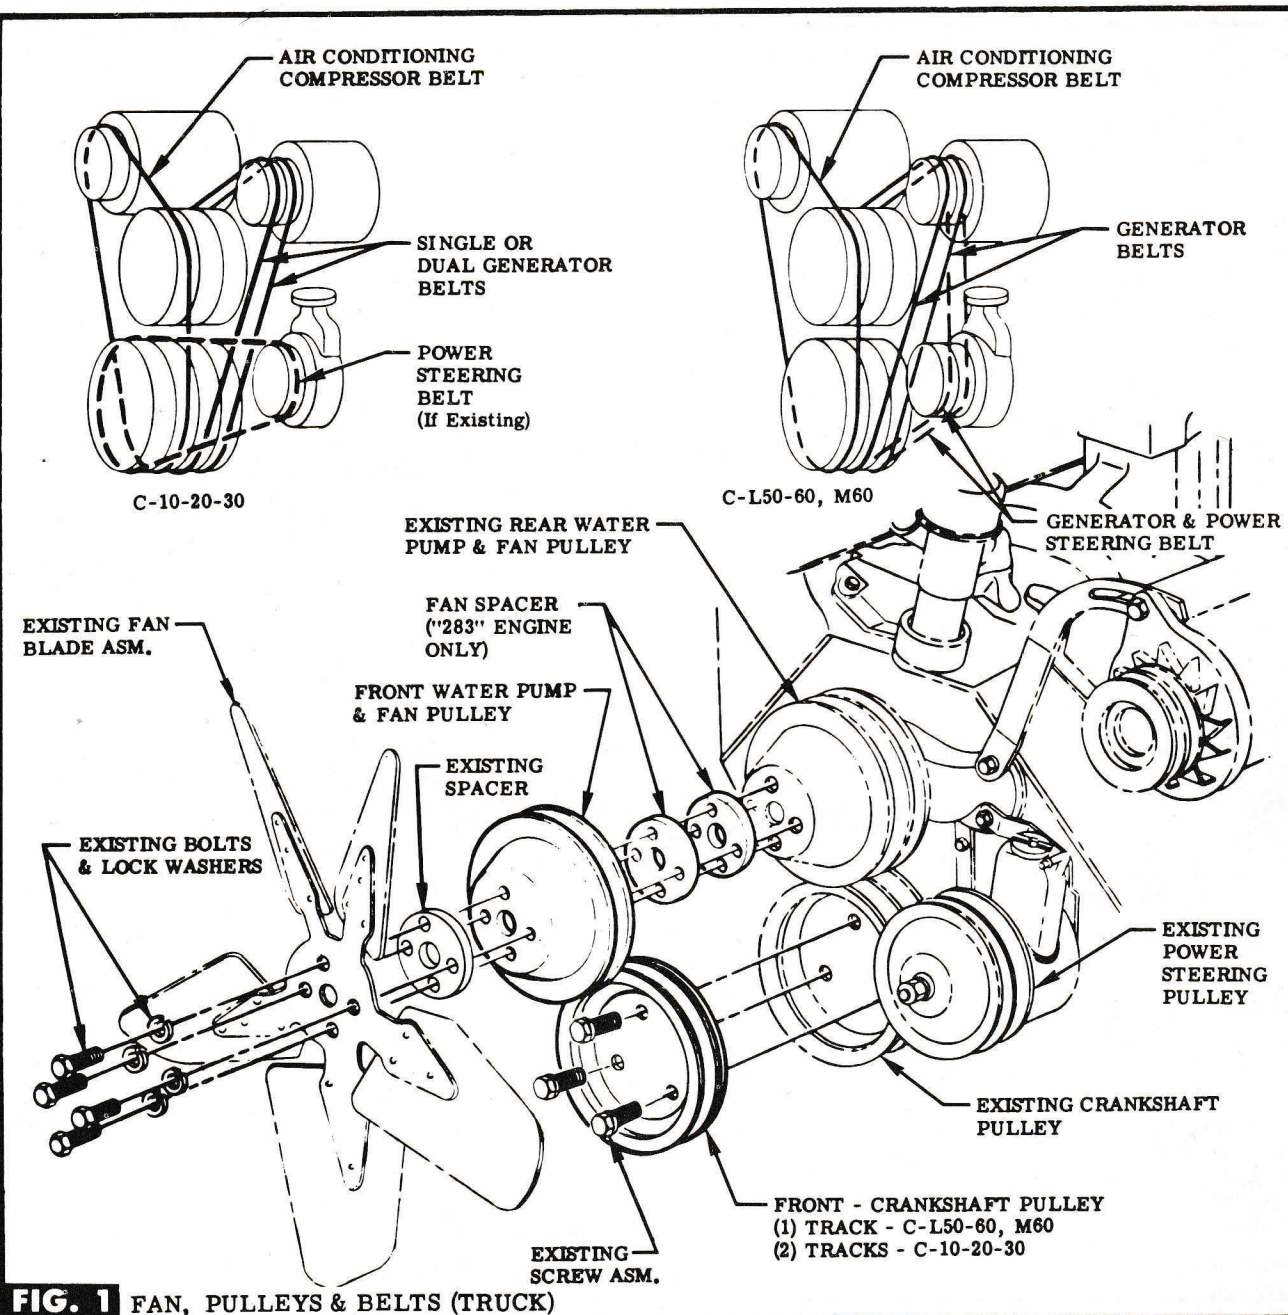

FIG. 1 FAN, PULLEYS & BELTS (TRUCK)
STEP 6 INSTALL PROVIDED GENERATOR BELT ON REAR PULLEYS, COMPRESSOR BELT ON CENTER PULLEYS & POWER STEERING BELT ON FORWARD PULLEYS. SEE SCHEMATIC IN FIG. 1. **NOTE** Adjust compressor on support until belt is tight, then secure nuts at pivot bolt & clamping bolt. SEE COMPRESSOR MOUNTING SHEET.
STEP 4 INSTALL PROVIDED CRANKSHAFT PULLEY TO EXISTING CRANKSHAFT PULLEYS WITH RETAINED SCREWS. SEE FIG. 1.